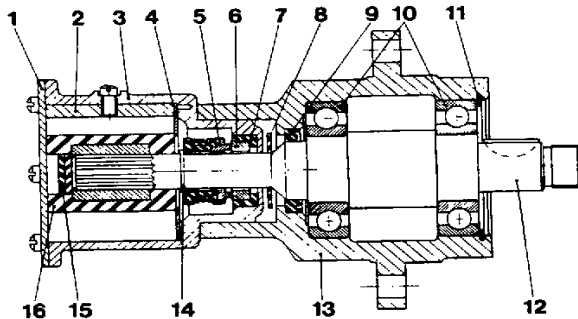

Fig. 157. Sea-water pump
4. Place the new ceramic ring (6, fig. 157) in the pump housing with the rubber casing downwards. Note! The ceramic ring must not come into contact with grease or be touched with the fingers since this can result in poor sealing. Lay a piece of transparent plastic foil over the ceramic ring as protection and then press the ring into position using the handle of a hammer.
5. Check that the deflector ring (8) is located on the shaft journal. Fit the pump housing without tightening it.
6. Press down the brass sleeve with the carbon ring (5) facing the ceramic ring. Note! The carbon ring must not come into contact with grease or be touched with the fingers. Place the circlip (14) on the shaft.